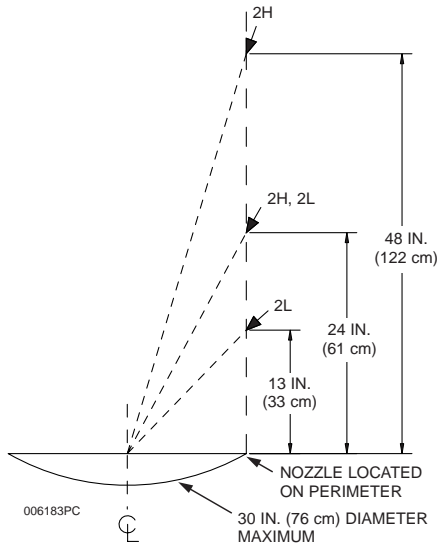

Figure 3-7.
The 2H nozzle, Part No. 551028, is used for high proximity wok protection. This nozzle is a two (2) flow nozzle. The nozzle must be located **anywhere on the perimeter** of the appliance, 24 in. to 48 in. (61 to 122 cm) above the top edge of the wok and aimed at the center of the wok. See **Figure 3-7**.
The 2L nozzle, Part No. 551027, is used for low proximity wok protection. This nozzle is a two (2) flow nozzle. The nozzle must be located **anywhere on the perimeter** of the appliance, 13 in. to 24 in. (33 to 61 cm) above the top edge of the wok and aimed at the center of the wok. See **Figure 3-7**.